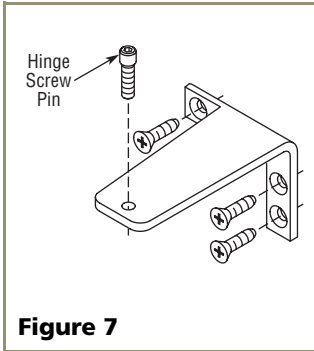

Figure 7
- Remove top hinge (3 screws), reinstall hinge screw pin, and remount on opposite side **BOTTOM** (see **Figure 7**).